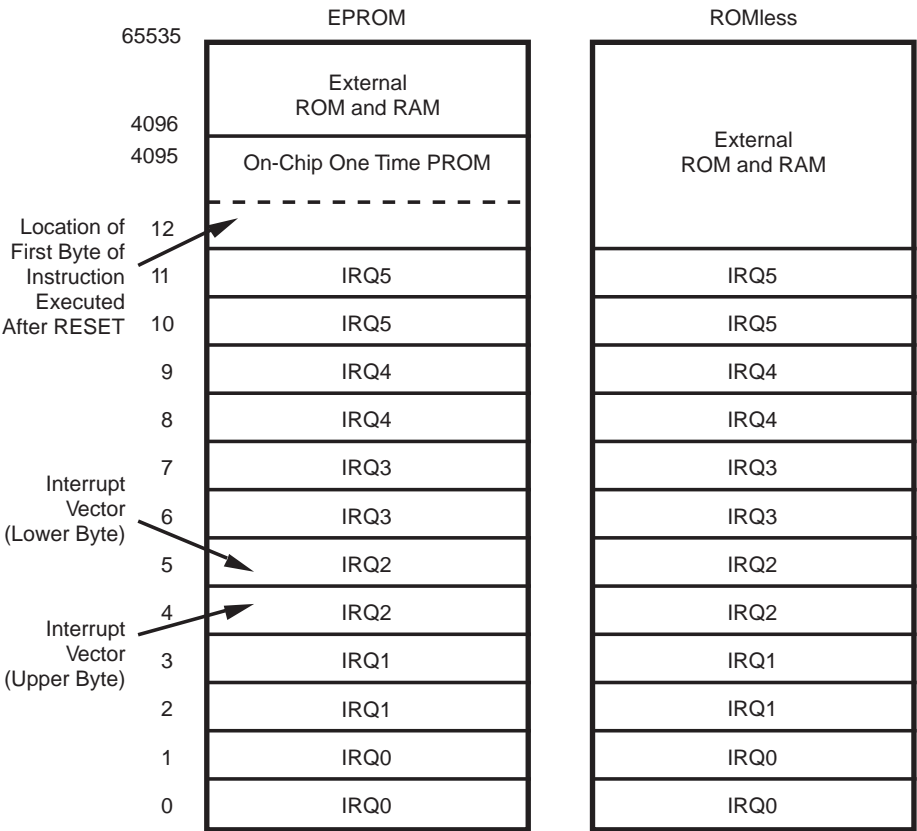

Figure 22. Program Memory Map
**Program Memory.** The MCU can address up to 4 KB of Internal Program Memory (Figure 22). The first 12 bytes of program memory are reserved for the interrupt vectors. These locations contain six 16-bit vectors that correspond to the six available interrupts. For EPROM mode, byte 12 (000CH) to address 4095 (0FFFH) consists of program-mable EPROM. After reset, the program counter points at the address 000CH, which is the starting address of the user program.